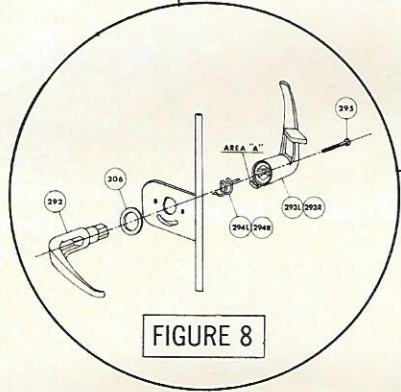

FIGURE 8
2. Cut small amount of plastic from forward end of inside handle tang which travels inside curved slot in door handle mounting plate as shown in Figure 8, Area A.